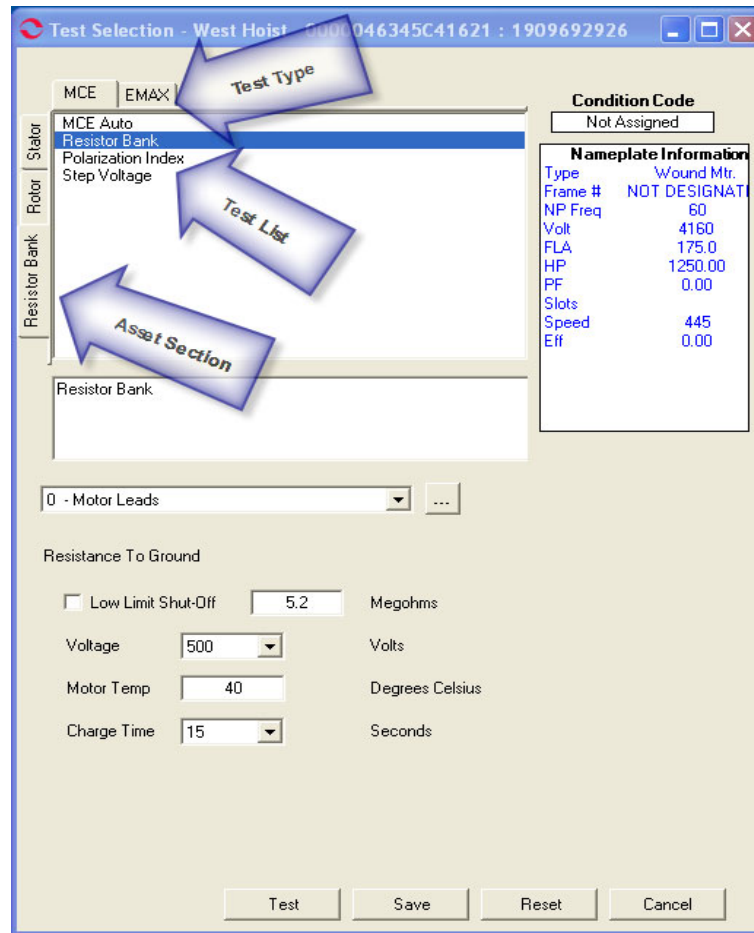

Figure 5-40: Test Selection Window
6. Select the Test Selection icon  on the toolbar. The Test Selection window opens, Figure 5-40.